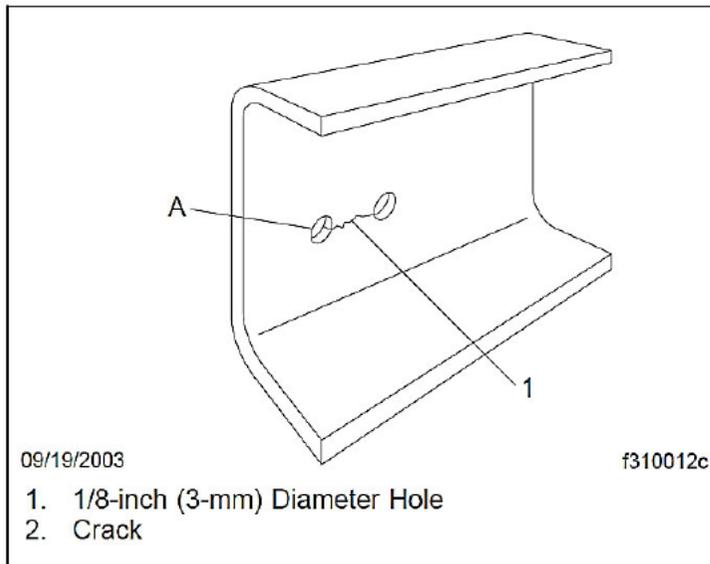

Fig. 1, Preventing Cracks from Spreading
1. Drill a 1/8-inch (3-mm) diameter hole at each end of the crack to prevent further spreading of the crack. See Fig. 1.